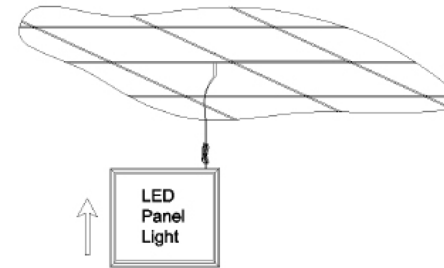
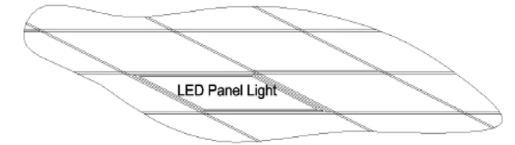

Fig.4a
Fig.4b
**Step 4:** Move LED Panel into the ceiling aperture and ensure the LED Panel is mounted securely, Fig.4a. Finally, turn on the mains supply to check the panel is working correctly, Fig.4b.